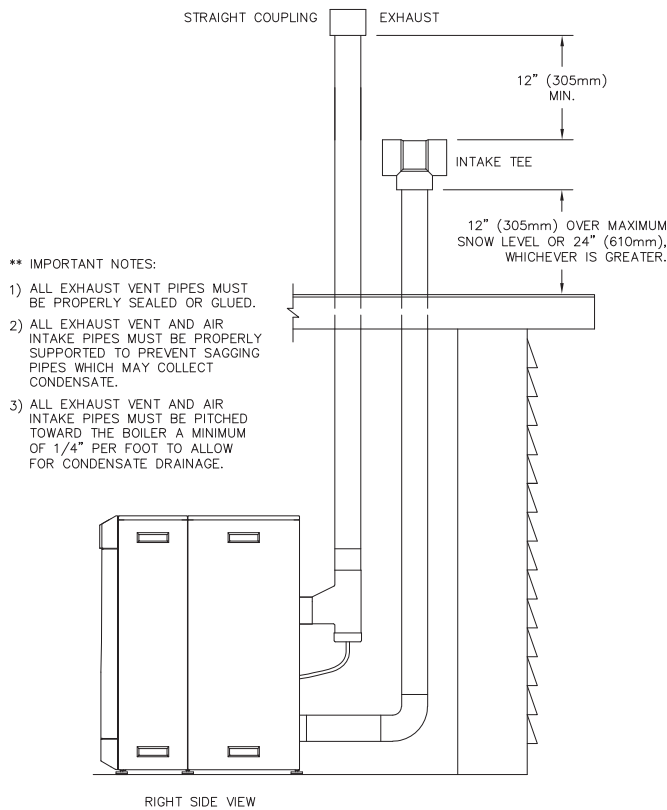

Figure 3.6: Vertical Exhaust and Air Inlet Pipe
8. Figures 3.6 through 3.8 show recommended vertical venting configurations.
a. Figure 3.6 illustrates a vertical venting configuration using PVC inlet and exhaust. A similar configuration can be constructed using a FasNSeal stainless steel vent termination. PVC or other approved materials may be used for air inlet piping.